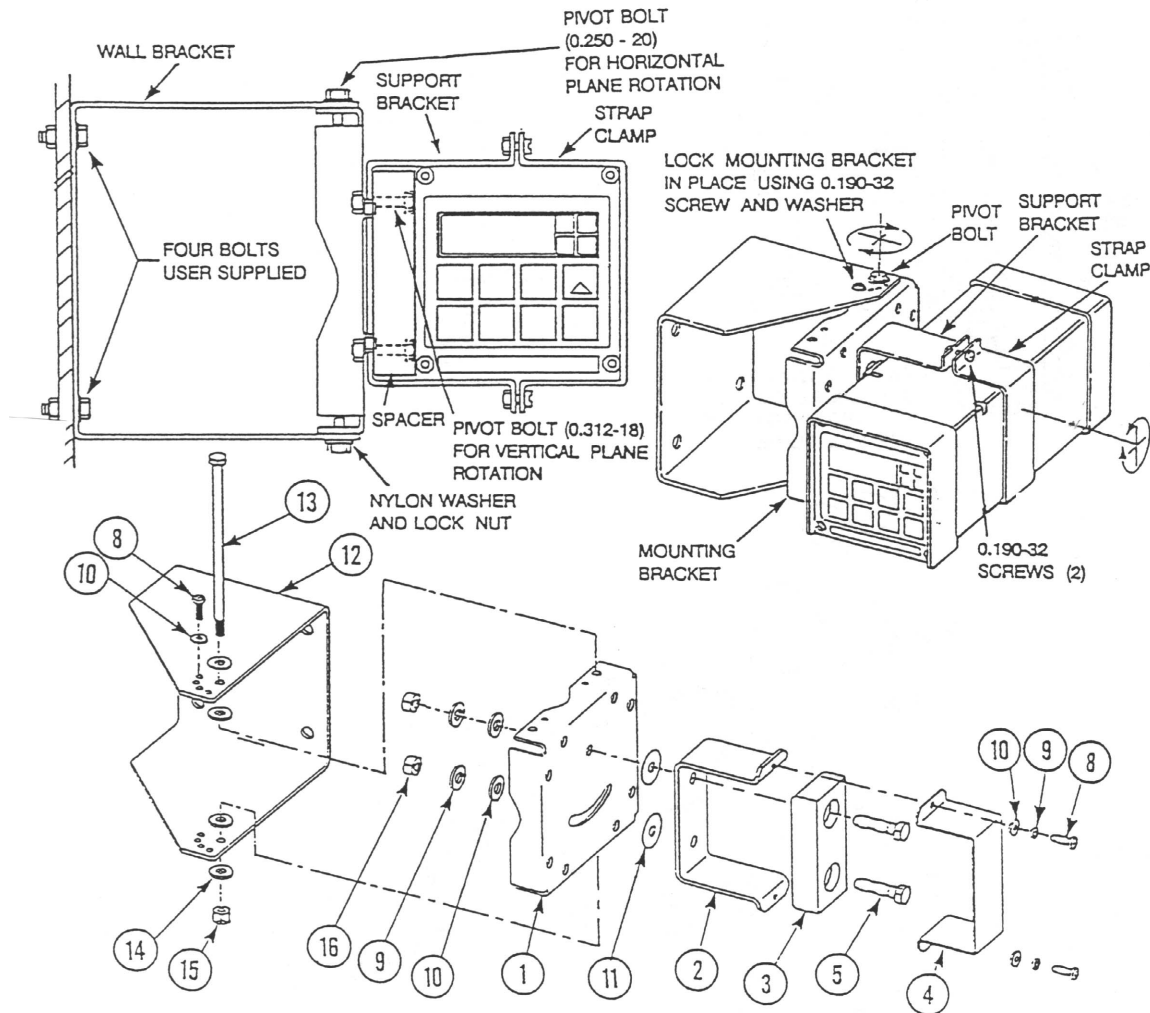

Figure 7. Metal Enclosure - Movable Mount
2. Referring to Figure 7, use wall bracket (12) as template for drilling four holes into mounting surface. Notice that the holes in the wall bracket are 9.53 mm (0.375 in) in diameter.
3. Attach wall bracket (12) to surface using four sets of bolts, washers, and nuts.
- a. Place hex bolts (5) through spacer (3) into support bracket (2).
- b. Slide nylon washers (11) over bolts (5).
- c. Slide bolts through universal mounting bracket (1) and fasten assembly finger tight with hardware designated 9, 10, and 16.
5. Slide Analyzer into support bracket and slide strap clamp (4) onto Analyzer. Using two sets of screws, nuts, and washers, attach strap clamp to support bracket to secure Analyzer.